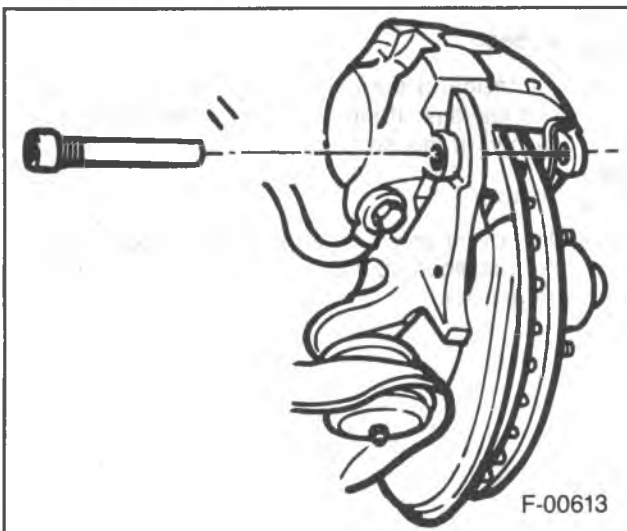

Figure 5 — Removing/Installing Caliper Mounting Bolts
3. Mounting bolts (figure 5).
7. Mounting bolts (figure 5).